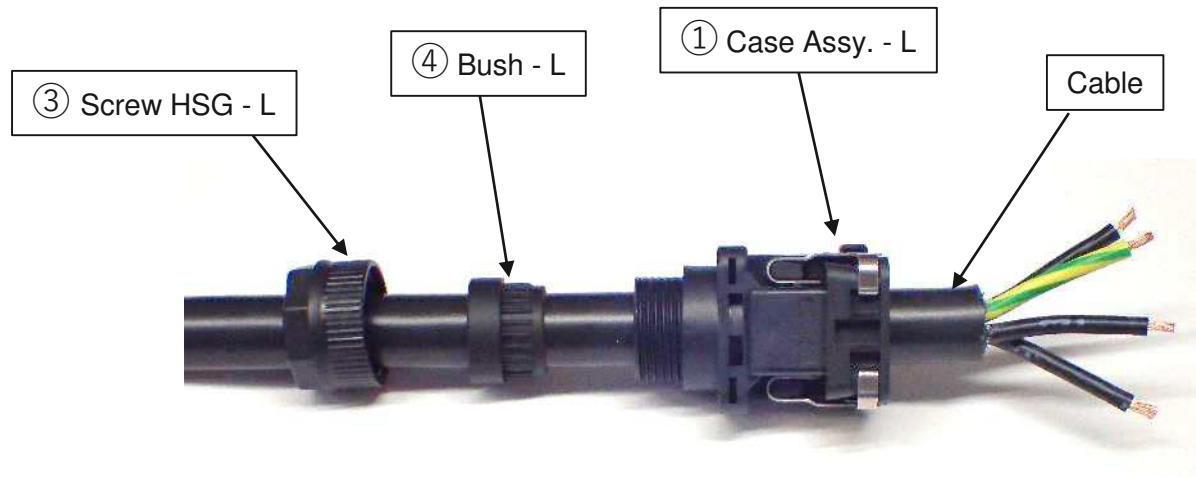

Fig.2
2) Insert cable through the accessories in Fig.2.